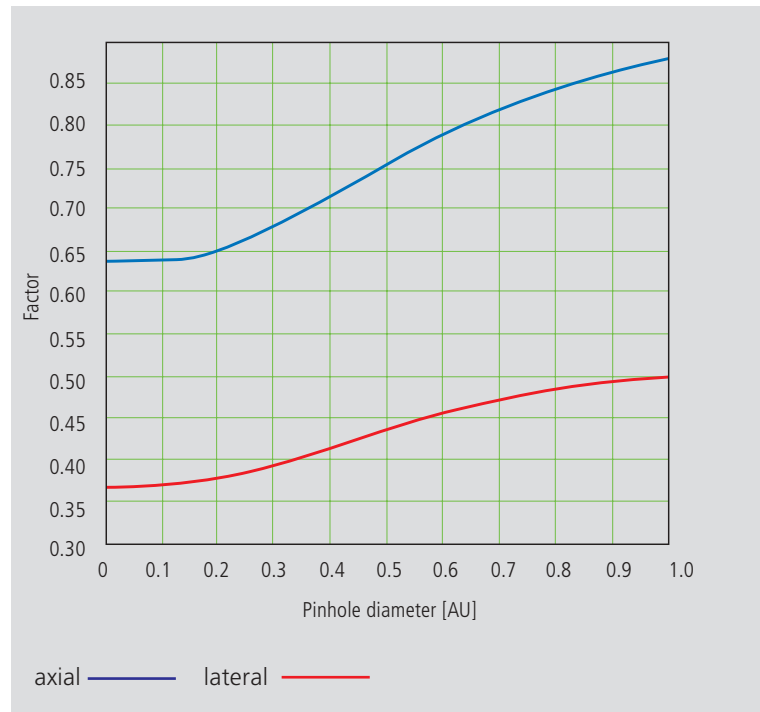

Fig. 10 Theoretical factors for equations (7) and (8), with pinhole diameters between 0 and 1 AU.
By merely changing the factors in equations (7) and (8) it is possible, though, to transfer the equations derived for $PH=0$ to the pinhole diameter range up to 1 AU, to a good approximation. The factors applicable to particular pinhole diameters can be taken from figure 10.